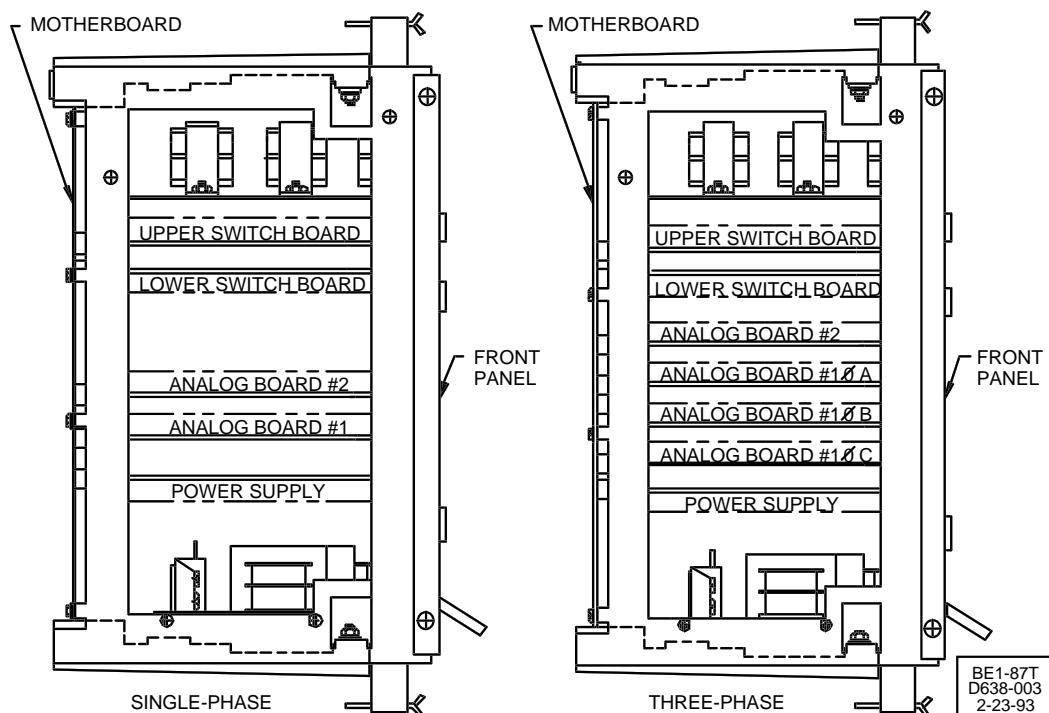

Figure 4-19. Side View of Cradle Assembly
The following procedures require the removal and handling of the internal printed circuit boards. Figure 4-19 shows the location of major components and assemblies. Because some of the components are vulnerable to electrostatic charge, the following precautions should be observed.
Step 2. Withdraw the cradle assembly (see Figure 4-19).
Disabling unused inputs requires disassembly of the relay, and must be done when the relay has been taken out of service. Access to the input-disabling jumpers requires the removal of the Analog #1 Board, shown in Figure 4-19. To avoid personal injury or equipment damage, do **NOT** proceed unless thoroughly familiar with the instructions in sections **RELAY OPERATING PRECAUTIONS** and **RELAY DISASSEMBLY: Precautions**.